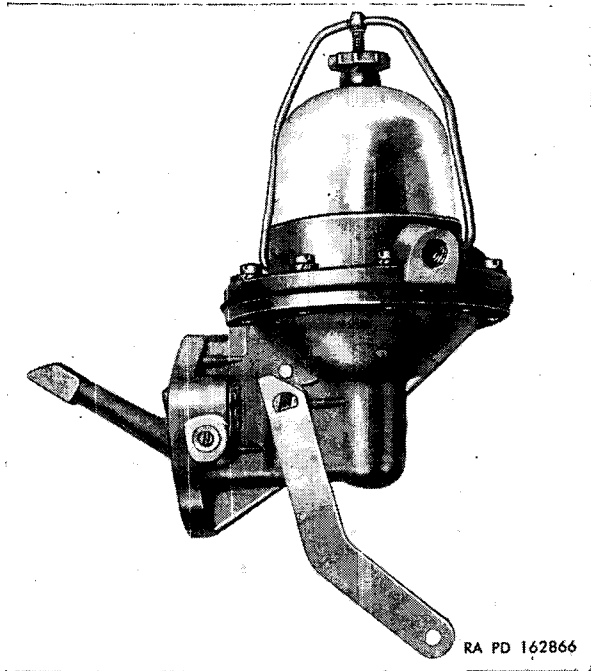

Figure 40. Fuel pump, series AU.
- (1) Mark edges of top cover and body of series AU fuel pump (fig 40) with a file. Mark at heat shield stud, if used. The parts may then be assembled in the same relative positions and heat shield stud properly located.
- (2) Remove cover screws and lock washers. Also remove heat shield stud, if used. Separate cover from body by jarring cover loose with a light plastic hammer.